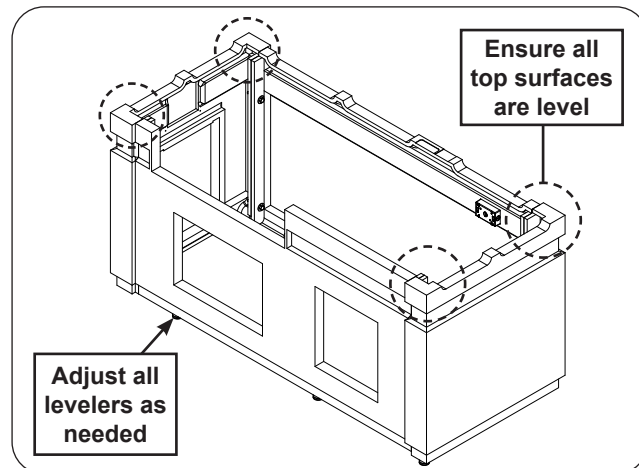

Fig. 8-1 Level assembly
1. Use the level to ensure the top surfaces of the assembly are level. The levelers at the bottom of the island may be adjusted as needed with a $\frac{1}{2}$ " open end wrench. See Fig. 8-1.